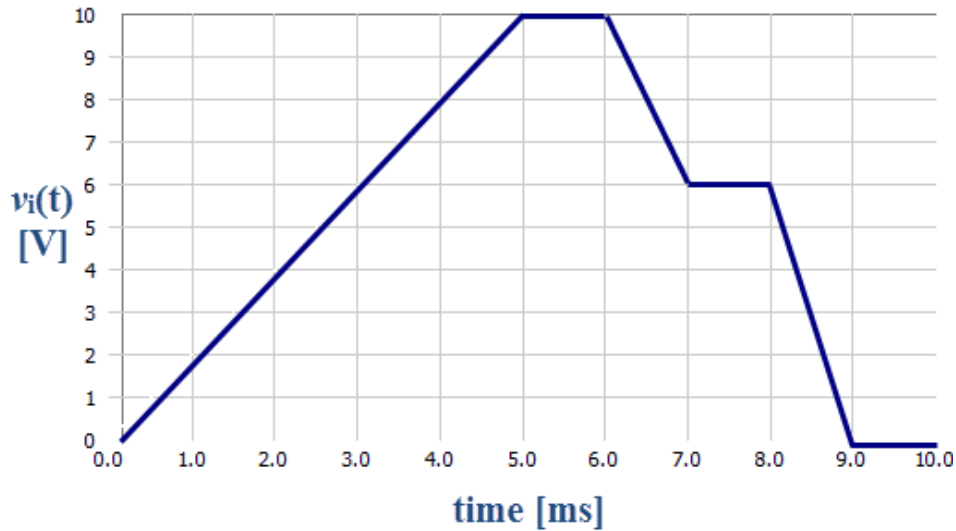

Figure 2.10: Input waveform for Problem 2.8 on the preceding page
1. Let $v_i(t)$ be the ramp waveform of Figure 2.10 on the facing page. Plot $v_o(t)$ for $t = 0$ to $t = 10$ ms and determine $v_o(t)$ at the times $t = 3.5$, 6.5 , and 8.5 ms.
1. Use the `PIECEWISE_LINEAR_VOLTAGE` source to create the ramp waveform shown in Figure 2.10 on the preceding page, and use the **Simulate** → **Instruments** → **Oscilloscope** to plot the signals $v_i(t)$ and $v_o(t)$. Use a distinct color for each trace. Run an interactive simulation to view the signals, and then take cursor measurements to determine the values of $v_o(t)$ at the times $t = 2.5, 6.5,$ and 8.5 ms.
1. Use the NI ELVISmx Arbitrary Waveform Generator (ARB) to create the ramp waveform shown in Figure 2.10 on page 79, and use the NI ELVISmx Oscilloscope to plot the signals $v_i(t)$ and $v_o(t)$. Take cursor measurements to determine the values of $v_o(t)$ at the times $t = 3.5$, 6.5 , and 8.5 ms.